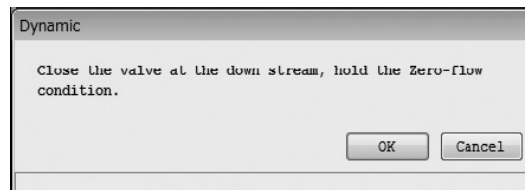

Fig.116
- ① Click on "Diagnosis/Service (T)" > "Test/Status" > "Installation" > "Dynamic" in the menu.
- ② The following window will be displayed (Fig. 116). This will check the dynamic device installation state. After stabilizing the flow rate, click "OK."